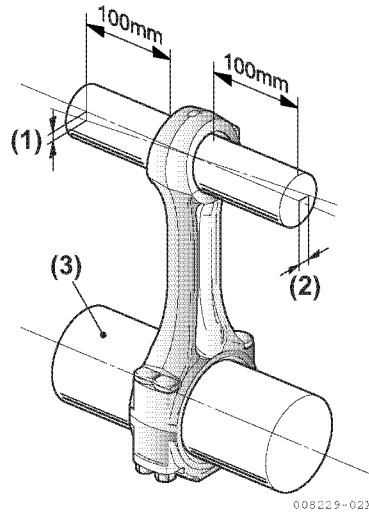

Figure 5-95
- Insert the appropriate mandrel into both ends of the connecting rod (Figure 5-95).
- Replace connecting rod if it exceeds the specifications shown (Figure 5-95).